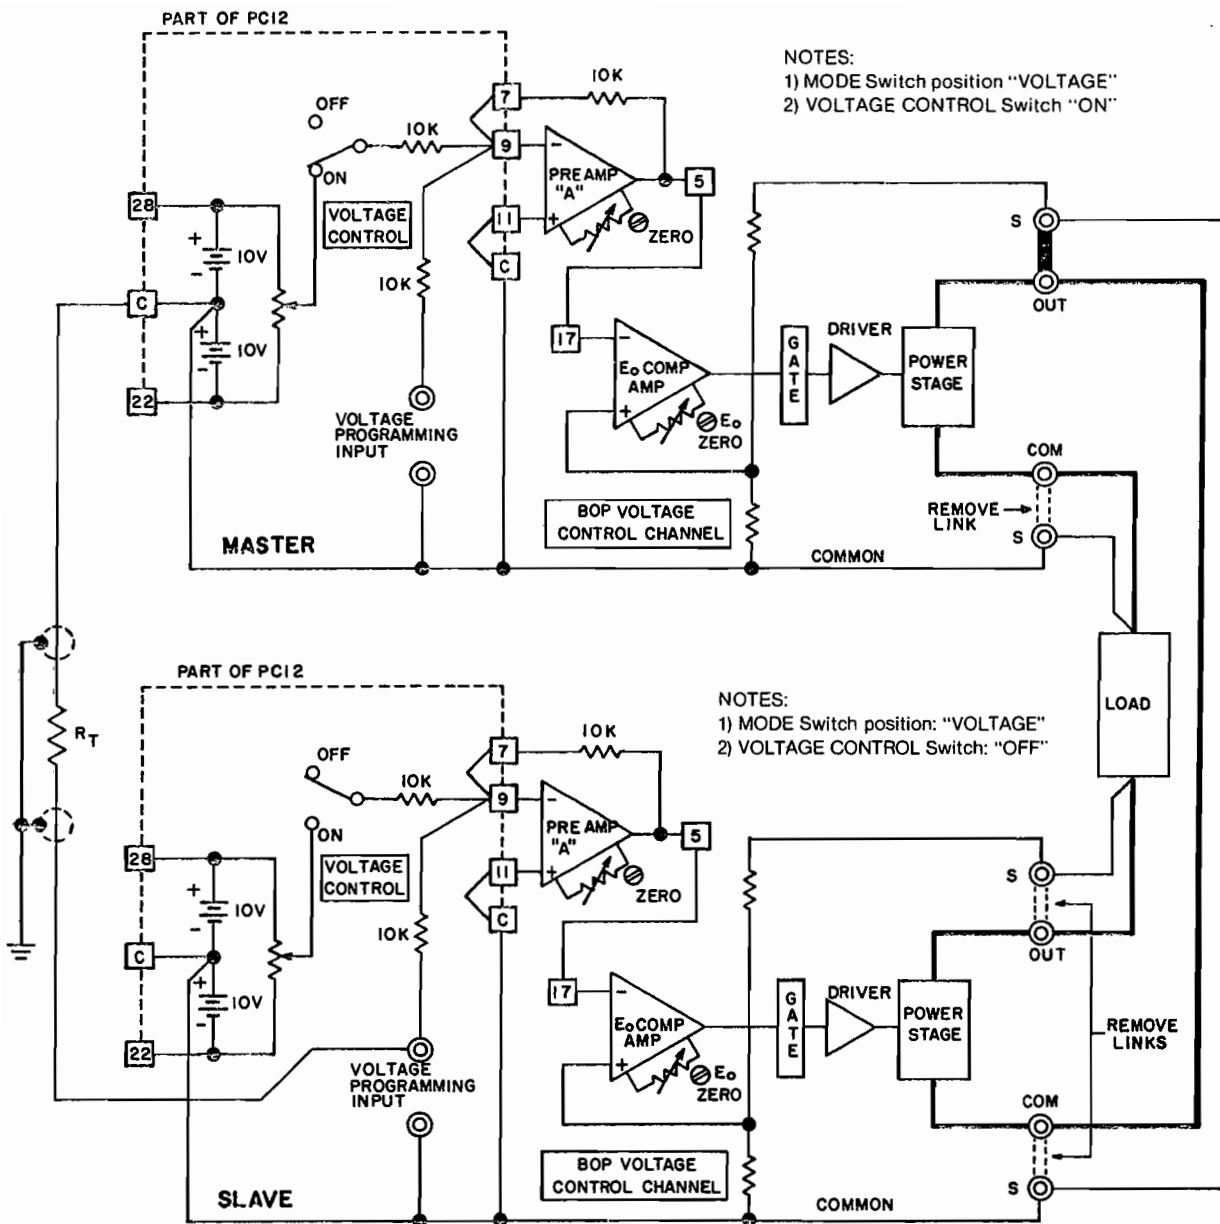

FIG. 3-26 MASTER/SLAVE SERIES CONNECTION OF TWO BOP POWER SUPPLIES, WITH ERROR SENSING AT THE COMMON LOAD.
- 1) Connect the BOP supplies as shown in FIG. 3-26. Set the MODE switches and the VOLTAGE CONTROL switches as directed in the set-up diagram, FIG. 3-26. Load-wire size should be as large as practicable and load-wire pairs should be twisted to keep the d-c resistance, as well as the inductance as low as possible. Use shielded cable for connecting the coupling resistor (R_T). Connect shield to common ground. Either the positive, or the negative output side of the system can be grounded.
- 4) Following the set-up procedures as described above, turn BOP's "on" and commence operation. The system as shown in the set-up diagram (FIG. 3-26) operates in the Voltage Mode, since the MASTER MODE switch is in "VOLTAGE" position. For operation in the Current Mode, transfer the MASTER MODE switch to "CURRENT".
- 3-43 To extend the concept of series connection to more than two BOP units, refer to FIG. 3-26. The BOP unit now designated the SLAVE becomes the new MASTER for the next BOP unit to be added and so on, up to the desired number of BOP's in series. Simply place the BOP outputs in series and connect a further coupling resistor (R_T) from the *present* SLAVE, terminal [C] to the *new* SLAVE, front panel VOLTAGE PROGRAMMING INPUT. Place the MODE switch on the BOP added to the series combination to VOLTAGE and the VOLTAGE CONTROL switch OFF.